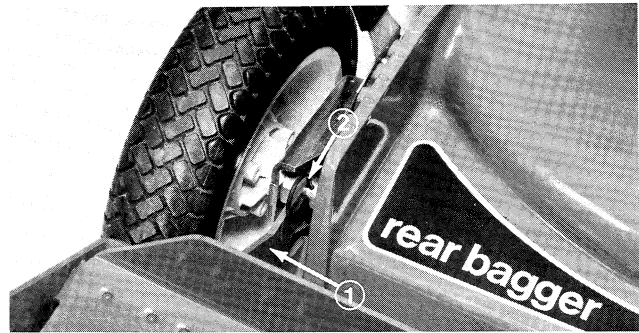

Figure 8
11. Install dethatcher mounting brackets over pivot nuts and secure with hair pin cotters. Reposition height-of-cut to "B", "C" or "D" position (Fig. 8).